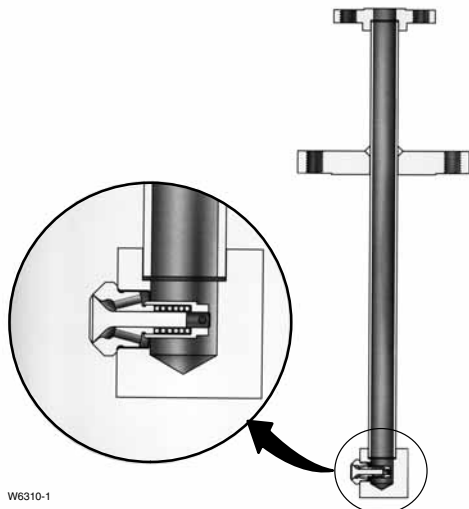

Figure 2. Design DMA/AF Desuperheater
- **Design DMA/AF**—A variable-geometry, mechanically atomized, back-pressure-activated desuperheater with one, two, or three spray nozzles is designed for applications requiring control over moderate load fluctuations. The Design DMA/AF desuperheater (figure 2) is installed through a flanged connection on the side of a DN200 (NPS 8) or larger pipeline. Maximum unit  $C_V$  is 15.0.